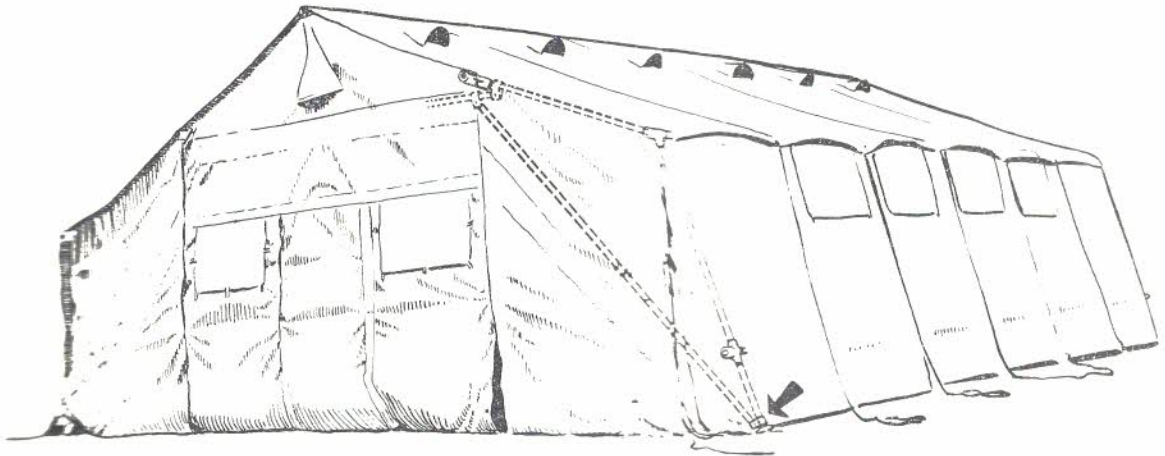

FIG 28 - COMPLETION OF WALL ON SIDE 2
58. At each end of Side 2 fit a male locking brace to the female locking brace, and fit the male brace by means of its support clamp to the corner support of the Lower Wall. The position for attachment will be self determining, but, as seen in Fig 28, will be at the lower end of the supports (short). See arrow.